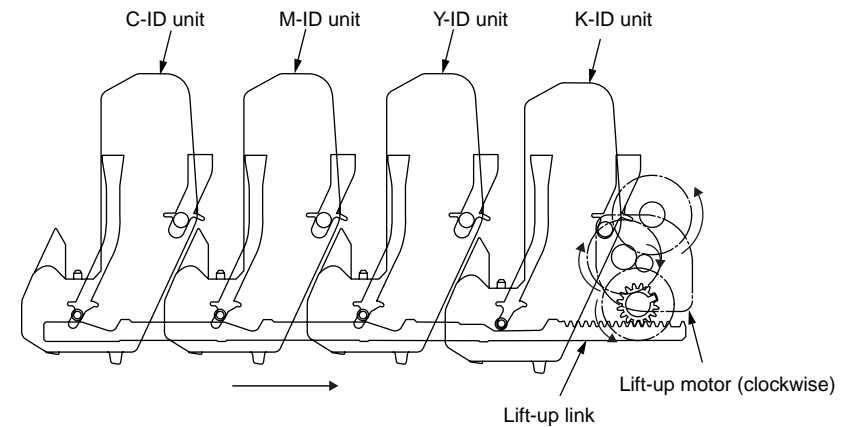

Figure 2-7
3. Figure 2-7 shows the motions of the different ID units when the printer is operated for monochrome print. As the lift-up motor rotates (counterclockwise), the lift-up link slides to the right, causing the ID units to go up, except for the K-ID unit, as can be seen in Figure 2-7. Namely, the printer is readied for monochrome print.